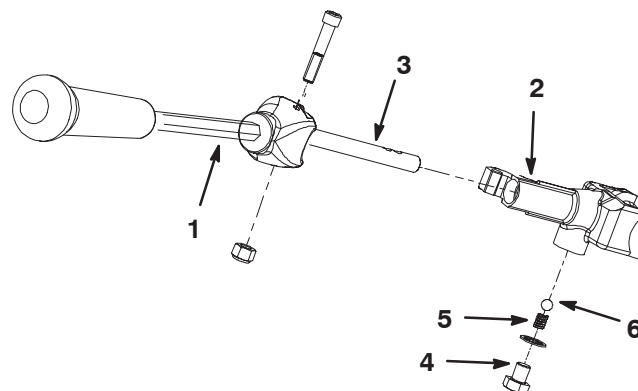

Figure 2
5. Remove the screw and washer securing the pin of the traction control rod handle to the traction control lever (Fig. 2). When removing the screw and washer from lever, make sure to account for the detent ball and spring which will fall out of the lever.
6. Remove the socket head screw and nut mounting the traction control rod handle to the traction control lever (Fig. 2).
23. Insert the detent ball and spring inside the traction control lever. Mount the traction control rod handle to the traction control lever with the socket head screw and nut previously removed (Fig. 2).
24. Secure the pin of the traction control rod handle to the traction control with the screw and washer previously removed (Fig. 2).